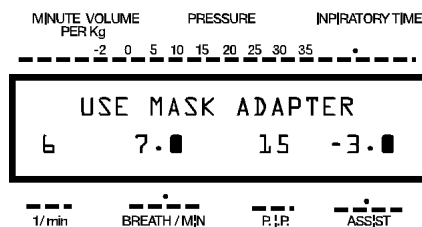

Figure 6
6. Place the "MASK" switch into the ON or "I" position. The LCD display will look like Figure 6, and a continual flow of oxygen with anesthetic gas will flow through the mask at your preselected flow rate.